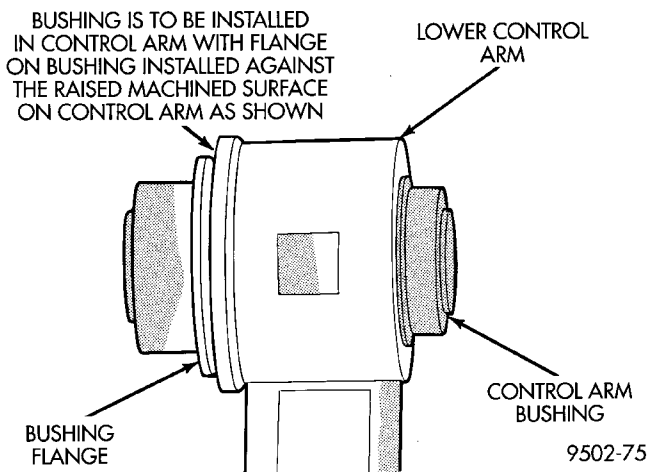

Fig. 74 Installation Direction Of Lower Control Arm Front Bushing
(2) Start front bushing into lower control arm **by hand, making sure it is square with its mounting hole in the lower control arm**. Bushing is to be installed in lower control arm from the machined surface side of lower control arm bushing hole (Fig. 74).